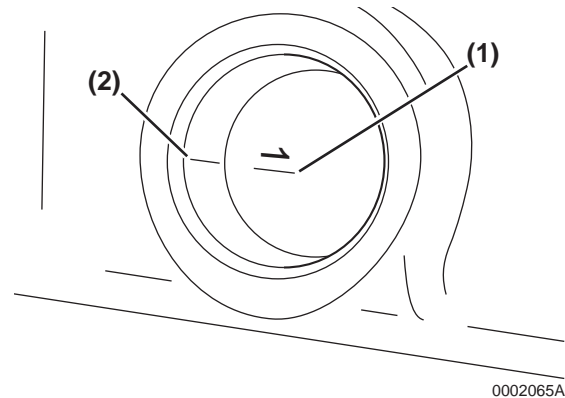
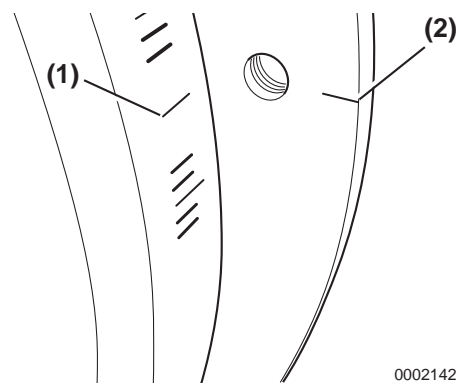
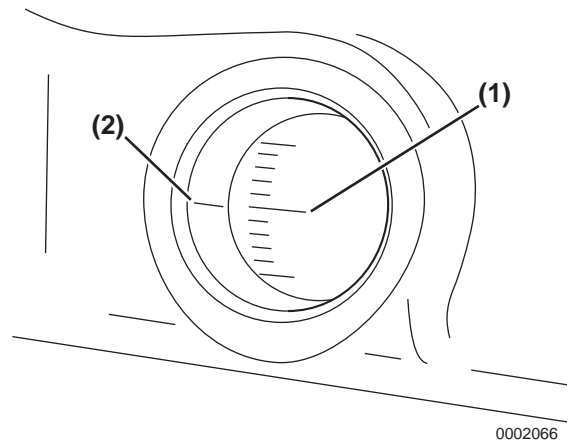

Figure 7-20
Figure 7-21
Figure 7-22
10. Highlight the timing reference mark on the flywheel housing (**Figure 7-20, (2)**) or engine back plate (**Figure 7-21, (2)**). Highlight the TDC mark (**Figure 7-20, (1)**), (**Figure 7-21, (1)**) on the flywheel.
11. Highlight the target timing mark (Figure 7-21, (1)), (Figure 7-22, (1)) on the flywheel timing grid as the injection timing measured before the fuel injection pump removal.
19. Check the position of the flywheel target timing mark (**Figure 7-22, (1)**) on the flywheel grid in relation to the timing reference mark (**Figure 7-22, (2)**) on the flywheel housing or back plate. If the two marks are aligned, the fuel injection timing is correct. If the marks do not align, the fuel injection timing must be adjusted. See *Adjusting Fuel Injection Timing* on page 7-20.